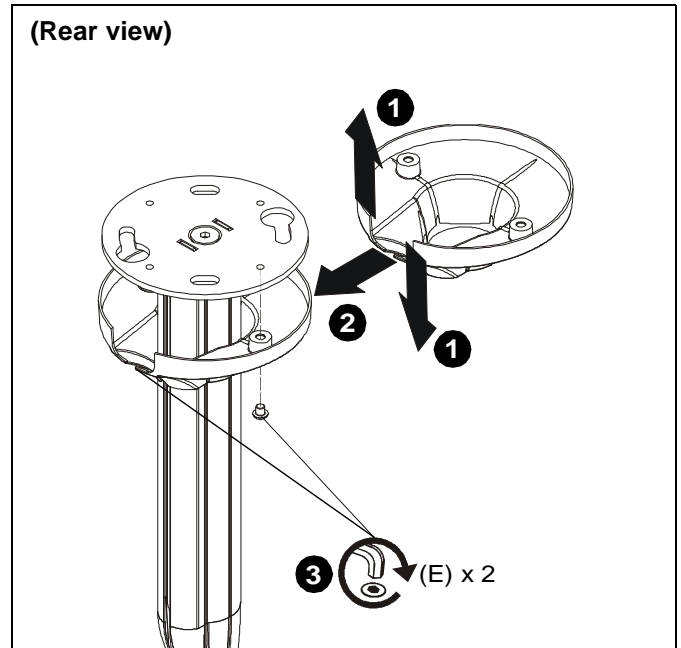

Figure 9
1. Maneuver ceiling plate cover (B) so that it is able to wrap around extension column. (See Figure 9)
2. Wrap ceiling plate cover (B) around extension column. (See Figure 9)
3. Use two M6 x 6mm button head cap screws (E) to secure ceiling plate cover (B) to CPA116 plate (A). (See Figure 9)